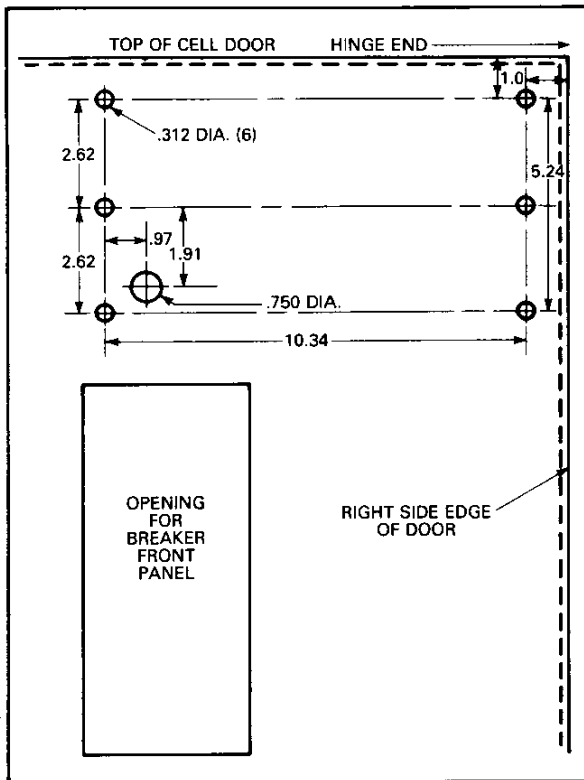
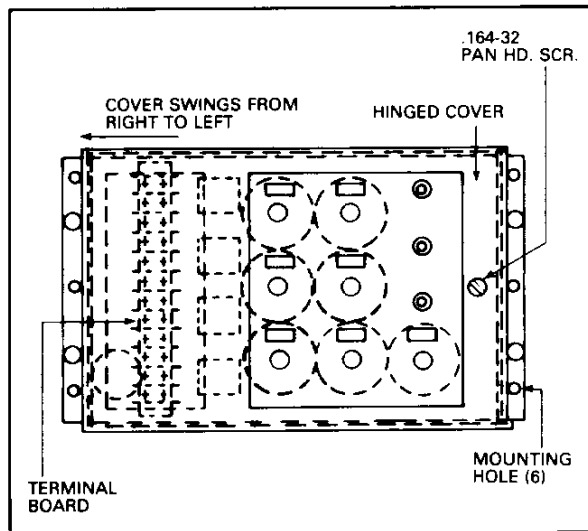

Fig. 7 Amptector Mounting Details Horizontal Mount
Fig. 8 Amptector in Horizontal Position
1. Acquaint yourself with the location of the mounting holes and placement of the amptector, Figs. 7 and 8.
2. Facing the front of the door scribe a horizontal line one (1") inch from the top of the door and parallel to the edge of the door. Scribe a vertical line one (1") inch from the top right side of the door and parallel to the edge. The intersection of these two lines locates the hole for the amptector at the top right side of the door, Fig. 7.
3. From the top horizontal line measure a distance of 5.24 inches down and scribe a parallel line, Fig. 7 and from the vertical line measure a distance of 10.34 inches and scribe a line parallel to the vertical line. This now locates the four (4) outer hole location. Now locate the center line, and the two inner holes, Fig. 7.
4. Using the center line and the left vertical line locate the center of the grommet hole, Fig. 7.
5. Centerpunch all locations, drill six (6) .312 diameter holes and one (1) .750 diameter hole.
6. Place the grommet into the .750 diameter hole. Mount the amptector on the door using .25-20 x 1.0 pan head screw, washer, lockwasher and nut. Finger tighten the nuts on the screws, Fig. 8.